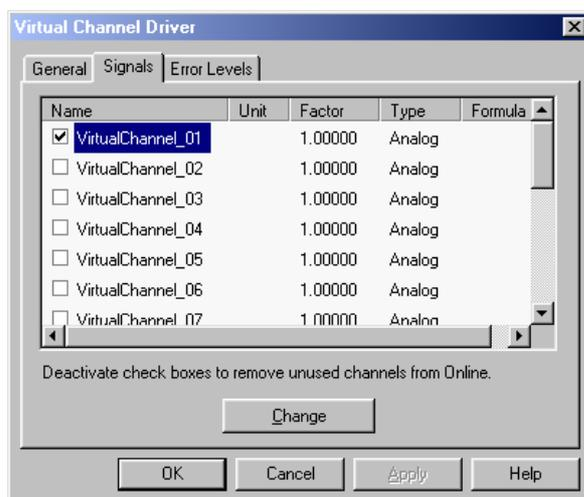

FIGURE 2-25 The Virtual Channel Driver Box
- a) Click on **Add Device** in the *Server Configuration Box* and select **Virtual Channel Driver** from the **General**, to present the *Virtual Channel Driver* box (FIGURE 2-25).
To monitor other parameters (e.g. the UltiMate Micropump pressure), check a new channel (FIGURE 2-25) and configure the signal as presented in Table 2-5.